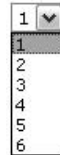

Figure 6-20 — Output selection drop box
1. Click the output drop box. A drop-down box appears (figure 6-20).